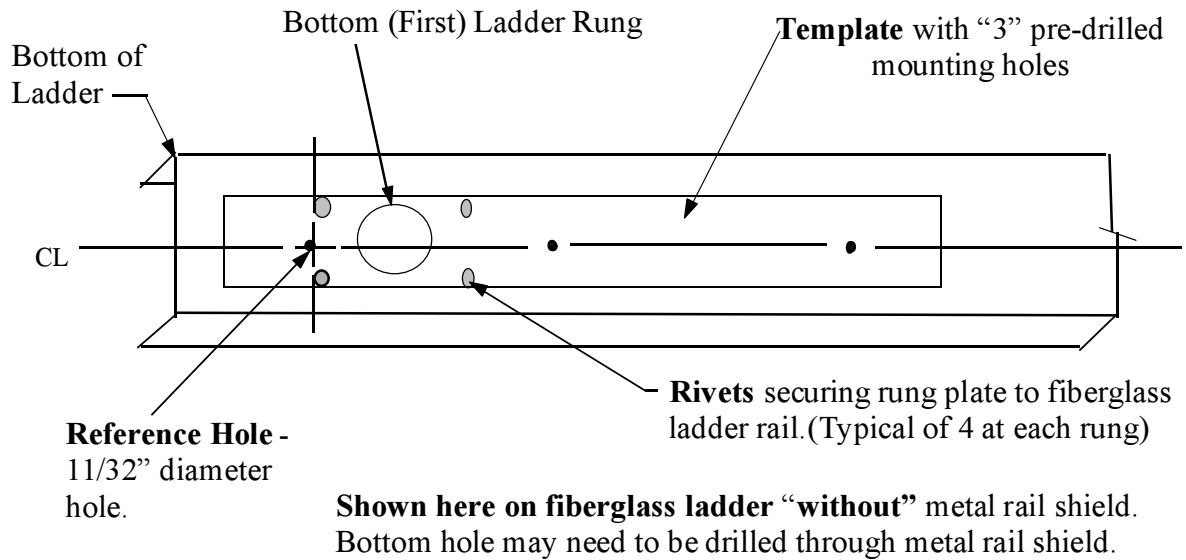

Figure 3-1B
3. Tape or clamp the TEMPLATE provided against outer ladder rail face along the centerline of rail (see **Figure 3-1B** for Werner and similar and **3-3B** for Louisville and similar ladders). Use the hole drilled in Step 2 as a guide for positioning the template in the correct location. Drill the two remaining 11/32" diameter holes through the ladder rail, using the template as a drill guide. **THE LOWER HOLE MAY NEED TO BE DRILLED THROUGH THE METAL FOOT ASSEMBLY PLATE.**